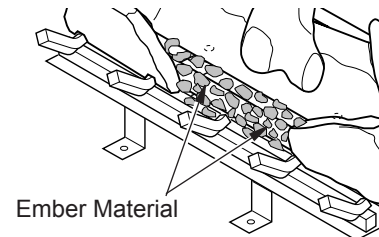

Figure 45 - Placing Ember Material on Burner
- Pull ember material apart into pieces no larger than a dime. Place these pieces loosely and sparingly directly onto the exposed section of the front burner and along the space between the burner and grate prongs (see Figure 45). This will create the glowing ember appearance as the flame touches the ember material. Do not block air slots by using too much ember material in one area. It is not necessary to use all of the ember material provided.